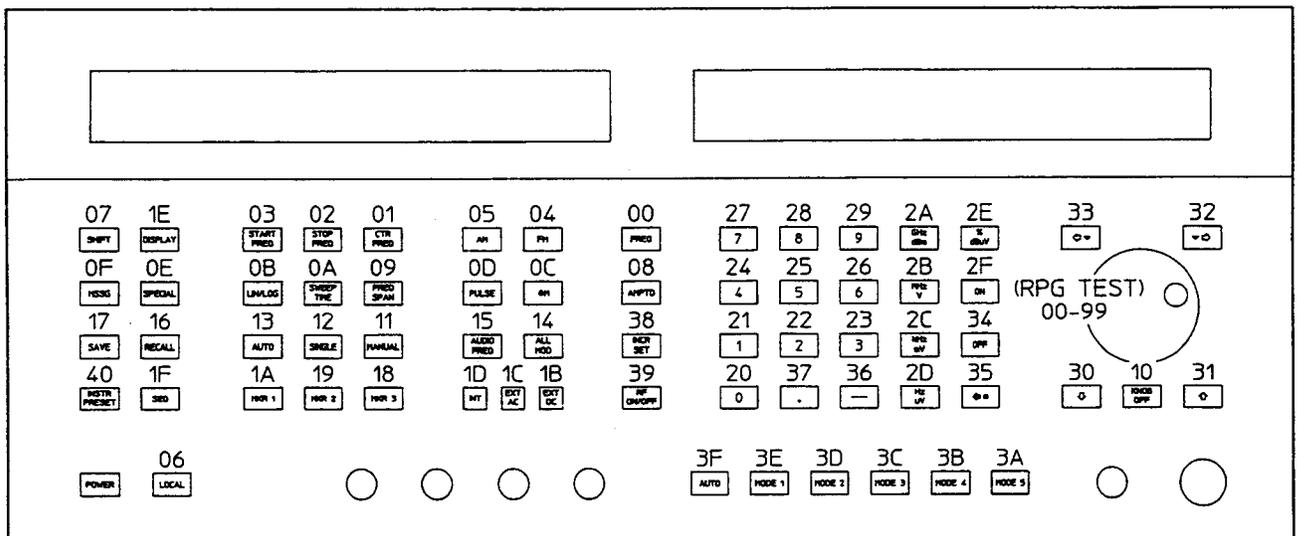

Figure 2-1. Front Panel Button Keycodes
5. Check all of the front panel keys for the correct button keycode response by pressing each key on the front panel and comparing the displayed button keycode with the correct keycode found listed over the front panel key in figure 2-1. (Note that it is normal for front panel LEDs to light up when certain keys are pressed.)